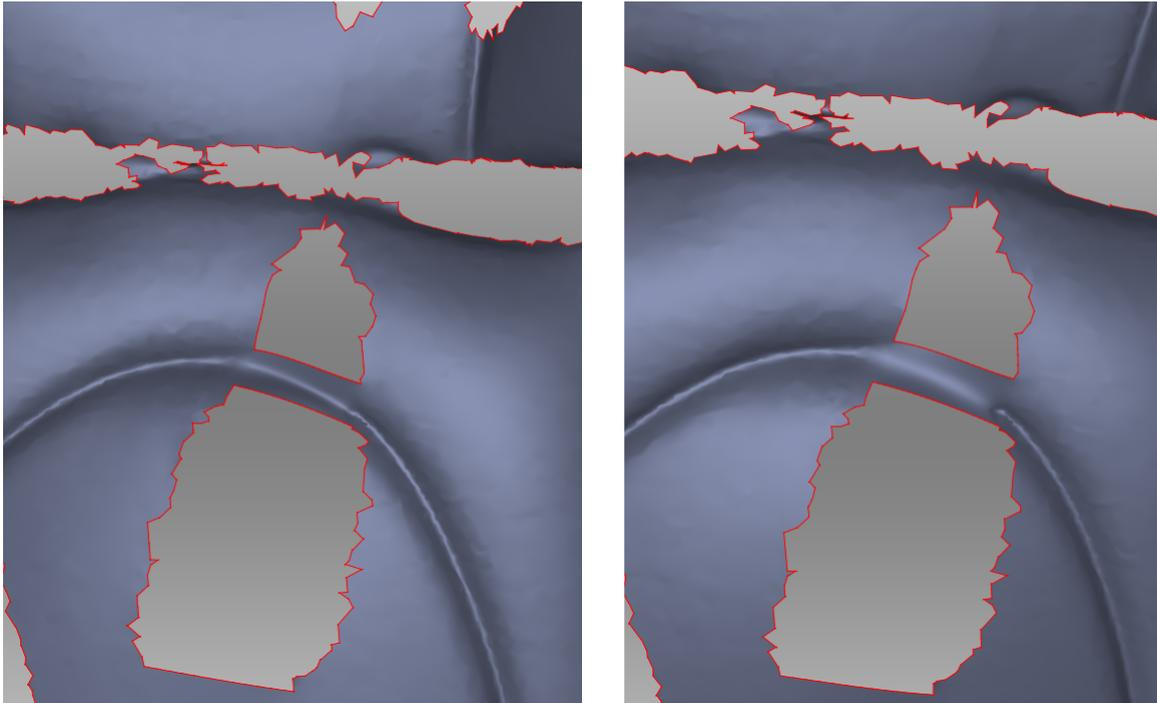

Figure 87: Small smoothness values on left and maximum on right.
- Use small or medium values of the *Bridge smoothness* slider (Figure 87).